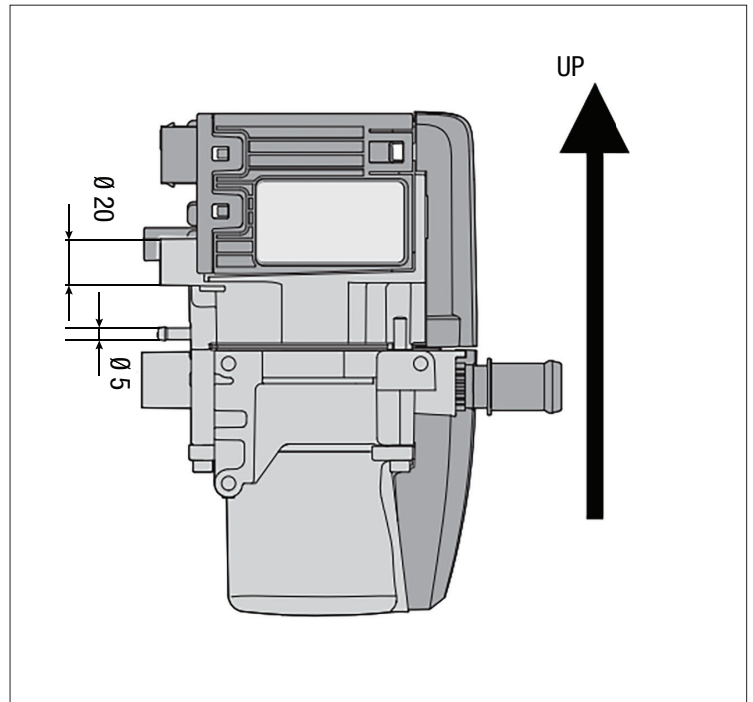

Figure 3
- Where many orientations are allowed, we strongly recommend mounting the furnace vertically as shown below in Figure 3. This will allow for the cleanest burn possible and longest service cycle.